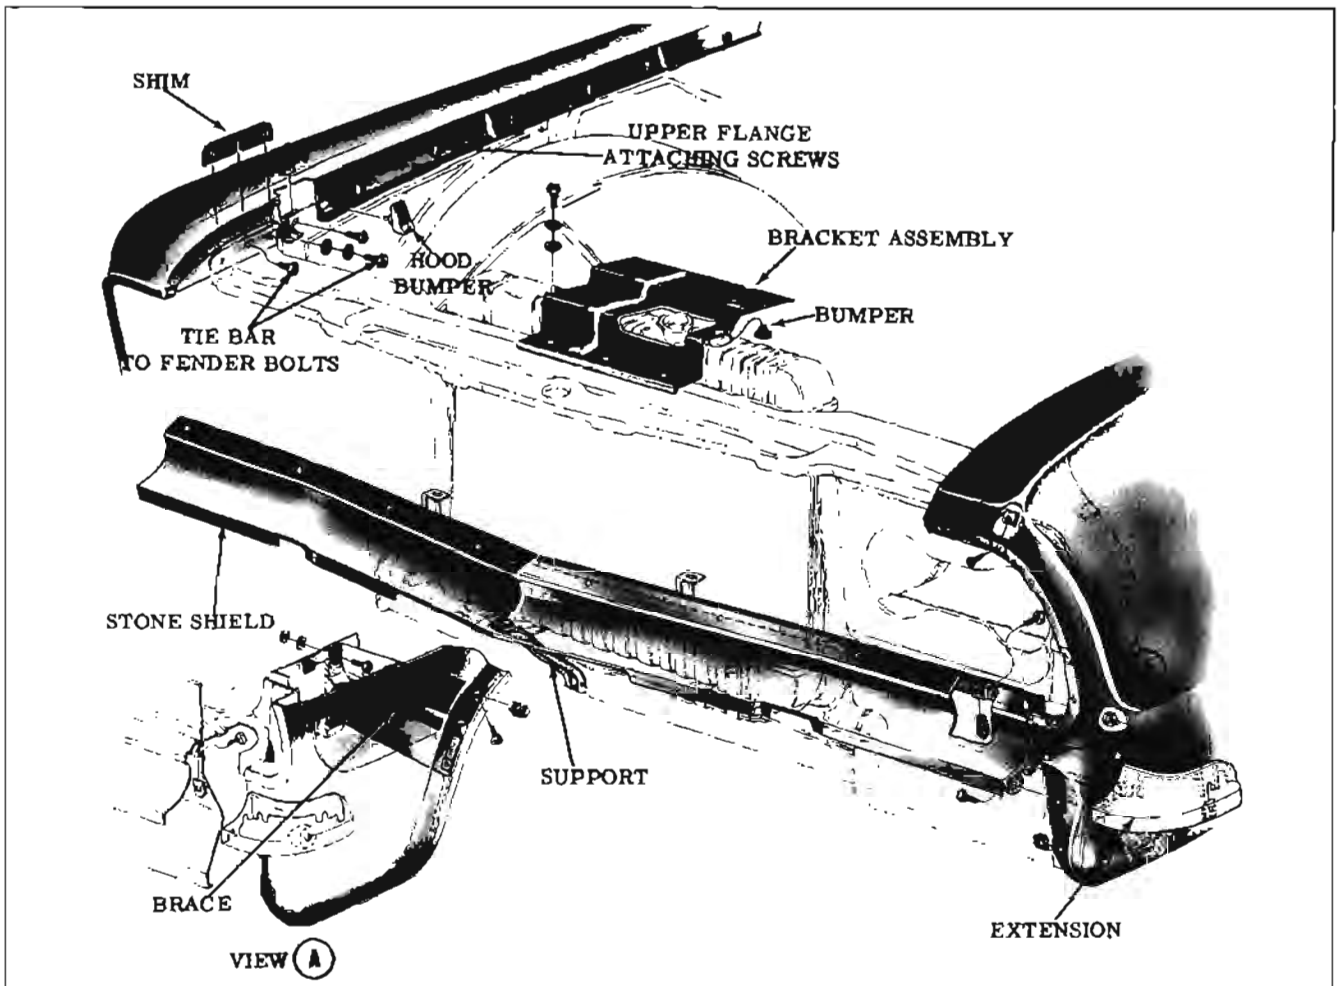

Fig. 12-108 Stone Shield and Fender Attachment
7. Remove fender to tie bar bolts. (Fig. 12-108)
9. Remove the fender upper flange attaching screws. (Fig. 12-108)
The fender side moldings are retained as illustrated. To remove the moldings, it is necessary to loosen the fender at the rear lower attaching bolts. (Figs. 12-108 and 12-109) Use sealer at each retainer location.